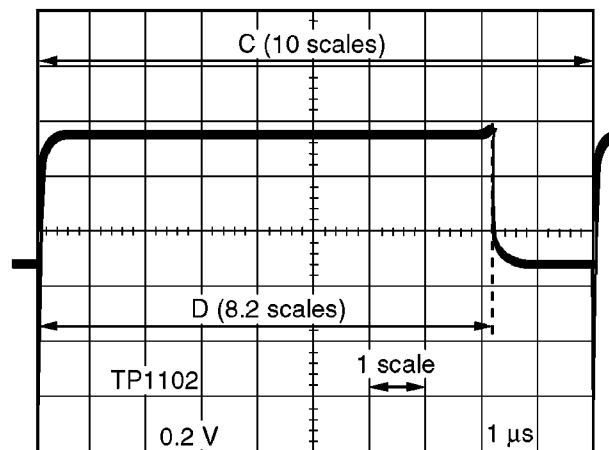

Fig. E3
3. Set the oscilloscope so that the "C" becomes 10 scales on the oscilloscope as shown in Fig. E3.
5. While slowly turning R1120 on the Sub Power C.B.A., adjust to the first point that "D" becomes 8.2 scale on the oscilloscope as shown in Fig. E3.